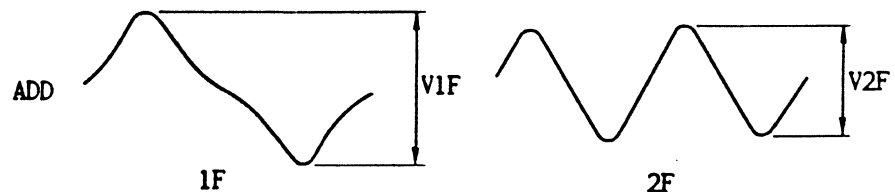

Fig.411 Measuring Resolution
- (2) Install the level disk and start the spindle motor.
- (3) Move the head to the innermost track.
- (4) Perform recording for one track turn at a fixed frequency of 1F (125kHz with WRITE DATA frequency).
- (5) According to Fig.411, measure the average read level V1F.
- (6) Perform recording the same as in (4) at 2F [frequency double 1F in (4)].
- (7) According to Fig.411, measure the average read level V2F.